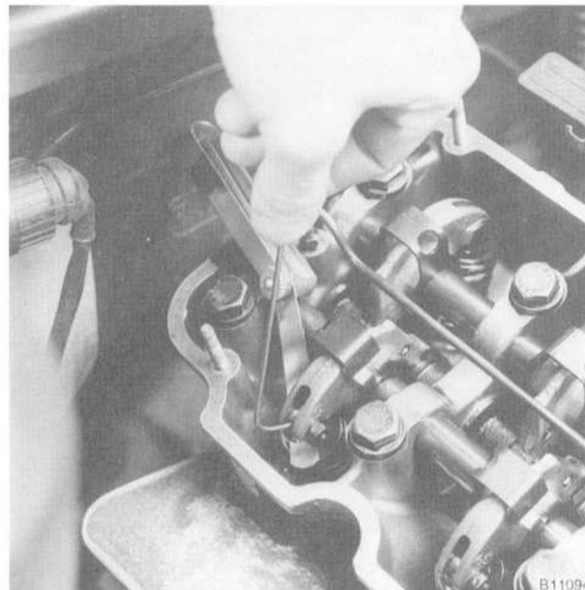

Fig. 16. Valve clearance being adjusted. Stiff wire hook inserted into hole in eccentric.
- If the valve clearance is incorrect, loosen the setscrew nut (locknut) with a 10 mm box-end wrench. Rotate the eccentric until the specified clearance is obtained and tighten the nut. See Fig. 16.